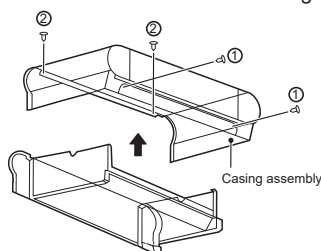

Figure 4-6 Removal of casing
- As shown in Figure 4-6, remove screws ①*2 and ②*2 and then the casing.